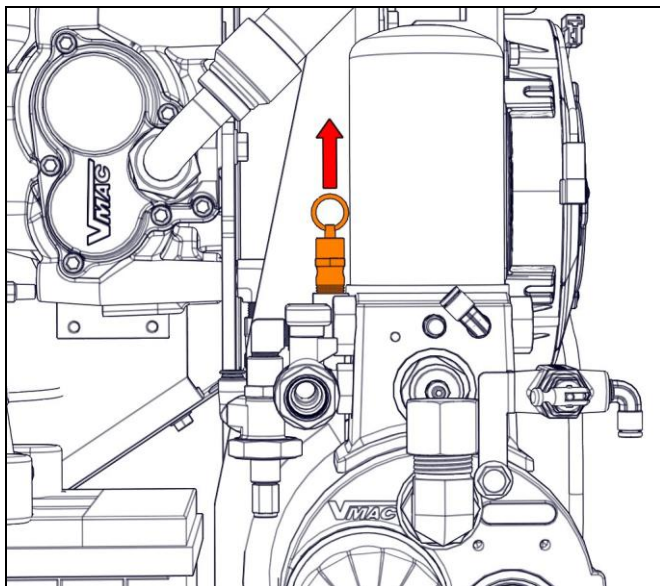

**Figure 29 - Spark plug wire**
- 5) Disconnect the spark plug wire (Figure 29).